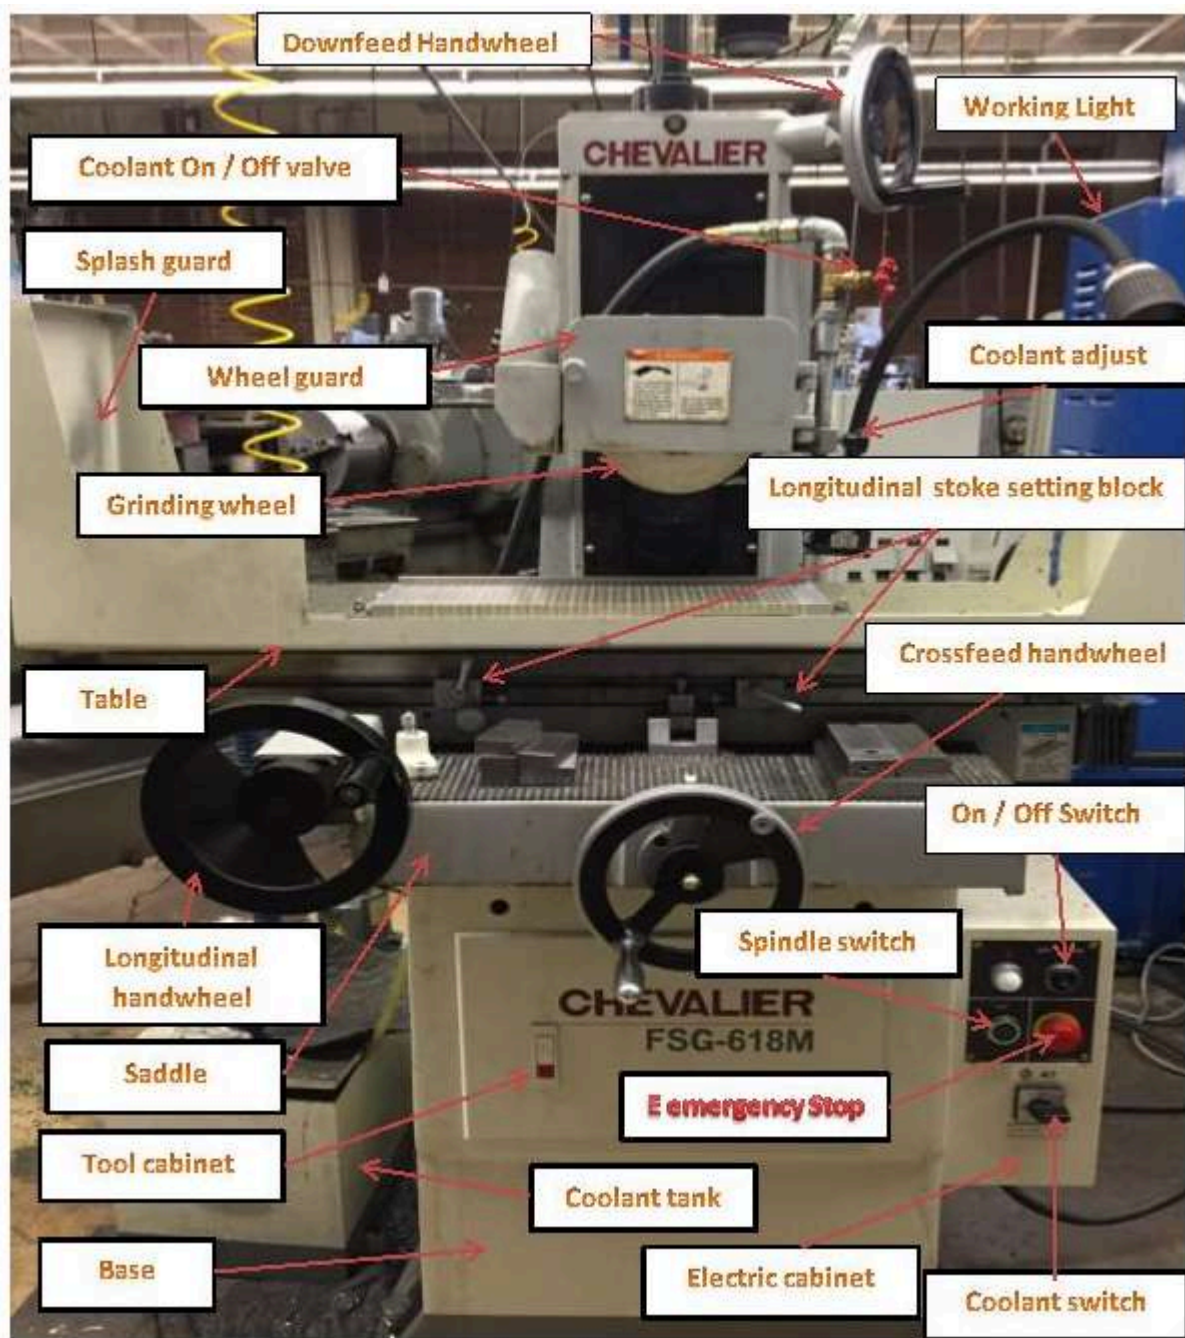

Figure 1. Chevalier Surface Grinder
7. Take a piece of paper and place it between the wheel and the stock. Move the paper back and forth while simultaneously lowering the wheel until the paper is no longer able to move to zero the z-axis. See figure 1.